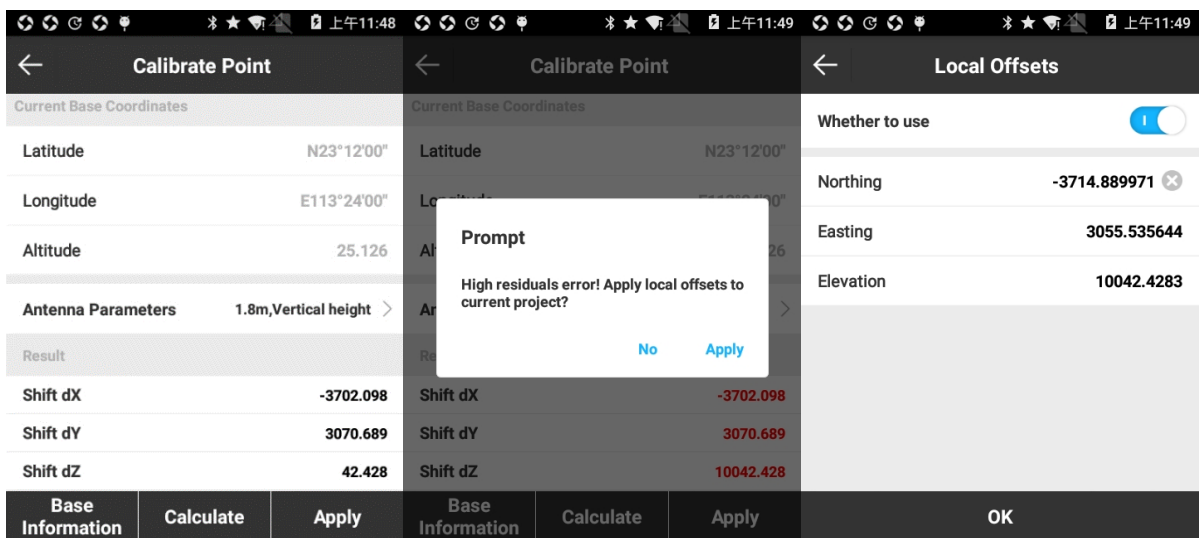

Figure 3.4-4    Figure 3.4-5    Figure 3.4-6
(3) Input Antenna Measured Height, set Antenna Measurement Type (Vertical height, Height to phase center, Slant height, Slant height to altimetry), and Antenna Type is automatically selected according to current connected receiver, and press [OK] to return to Base Point Calibration interface.
(4) Press [Calculate] to check calculation result as shown in Figure 3.4-4. Press [Apply] and it would directly apply the calculation result. If the calculation result is in red font, it means translation parameter overrange (longitude difference over 1 degree or latitude difference over 1 degree or height difference over 1000), in which press [Apply] and there would pop up a prompt as shown in Figure 3.4-5 saying "High residuals error! Apply local offsets to current project?". If press [Apply] it would jump to Local Offsets interface as shown in Figure 3.4-6 to display the result. Press return key upper right and pops up prompt to ask whether to apply calculation result, and after selection it returns to Base Point Calibration interface.